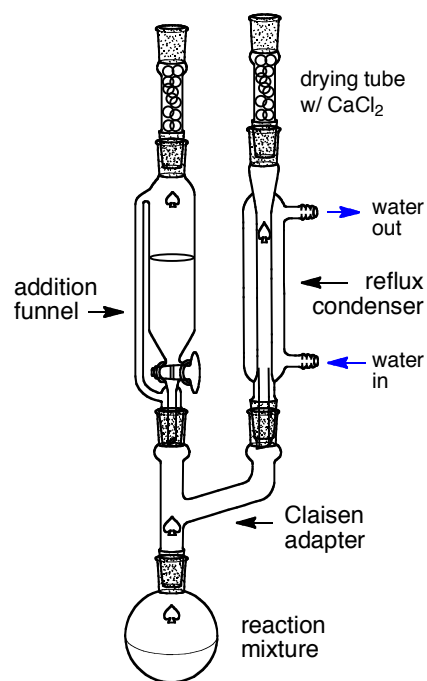

Figure 1. Reaction setup
- Transfer the appropriate amount of anhydrous aluminum chloride, AlCl_3 , (MW = 133.3 g/mol, 0.055 mol) to a 100 mL round bottomed flask with 15 mL of dry dichloromethane, CH_2Cl_2 . Add a stir bar, Claisen head, addition funnel, and reflux condenser to the flask (see Fig. 1). *Weigh out the AlCl_3 in the fumehood and transport it to your fumehood tightly capped!*